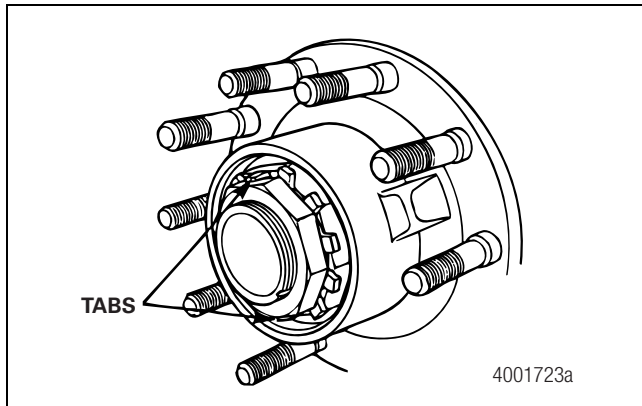

Figure 3.12
6. Use a tool to straighten the two opposing flattened lock washer tabs, until they clear the outer nut. Always discard the lock washer you removed and install a new one. Do not reinstall a used lock washer. Keep the tool securely on the tabs, so that the tool doesn't slip off and damage the hub seal. Figure 3.12.